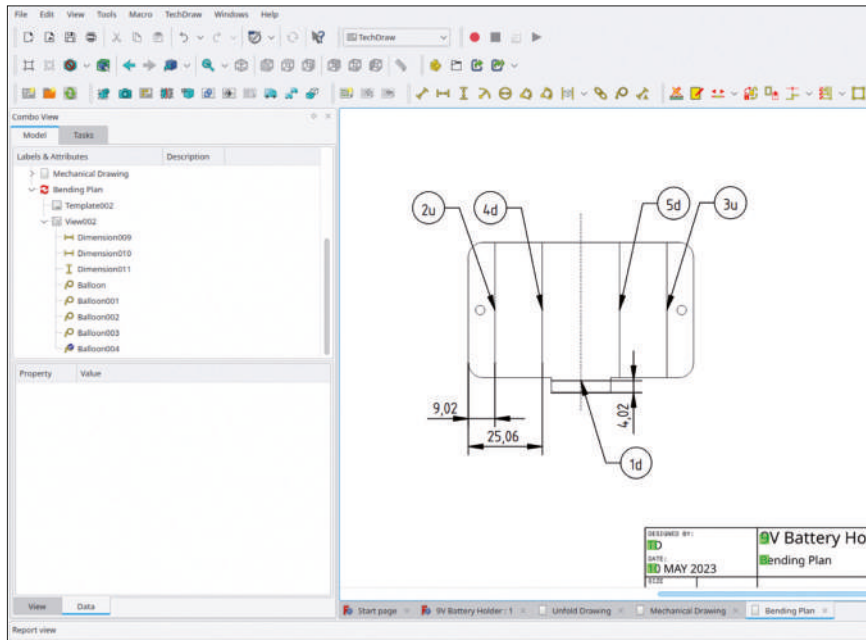

Figure 5-48
7. In the same way, add the annotations given in Figure 5-48. Please note: The order of the bends depends on your bending machine and its capabilities.